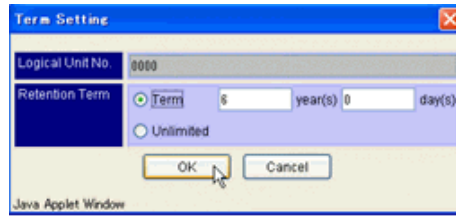

Figure 7-2: Term Setting Dialog Box
1. Select a LUN, and from the **Attribute** drop-down menu, specify the appropriate information. The **Term Setting** dialog box appears, as shown in Figure 7-2.